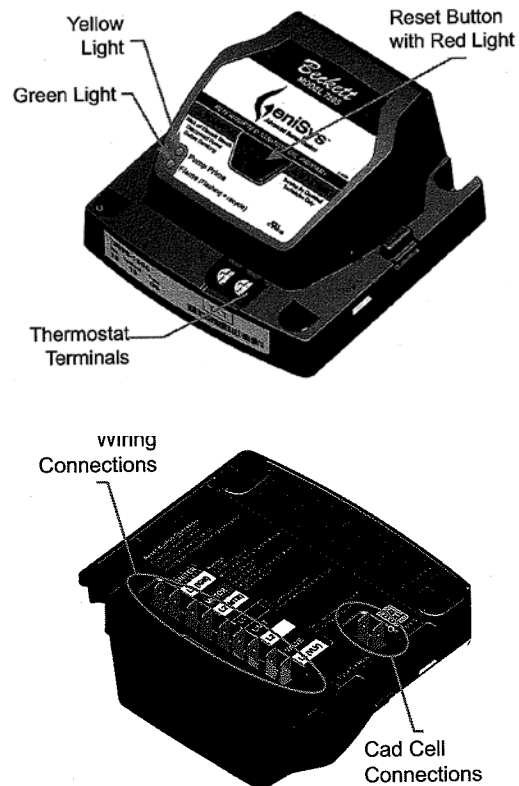

Figure 29: GeniSys 7505 Oil Primary Terminals, LED's and Reset Button
- a. **GeniSys 7505 Control Features**, see Figure 29.
- At burner start up, click the reset button while the igniter is till on. This will transition the control to a dedicated Pump Prime mode, during which the motor, igniter, and valve are powered for four (4) minutes. The yellow light will be on.